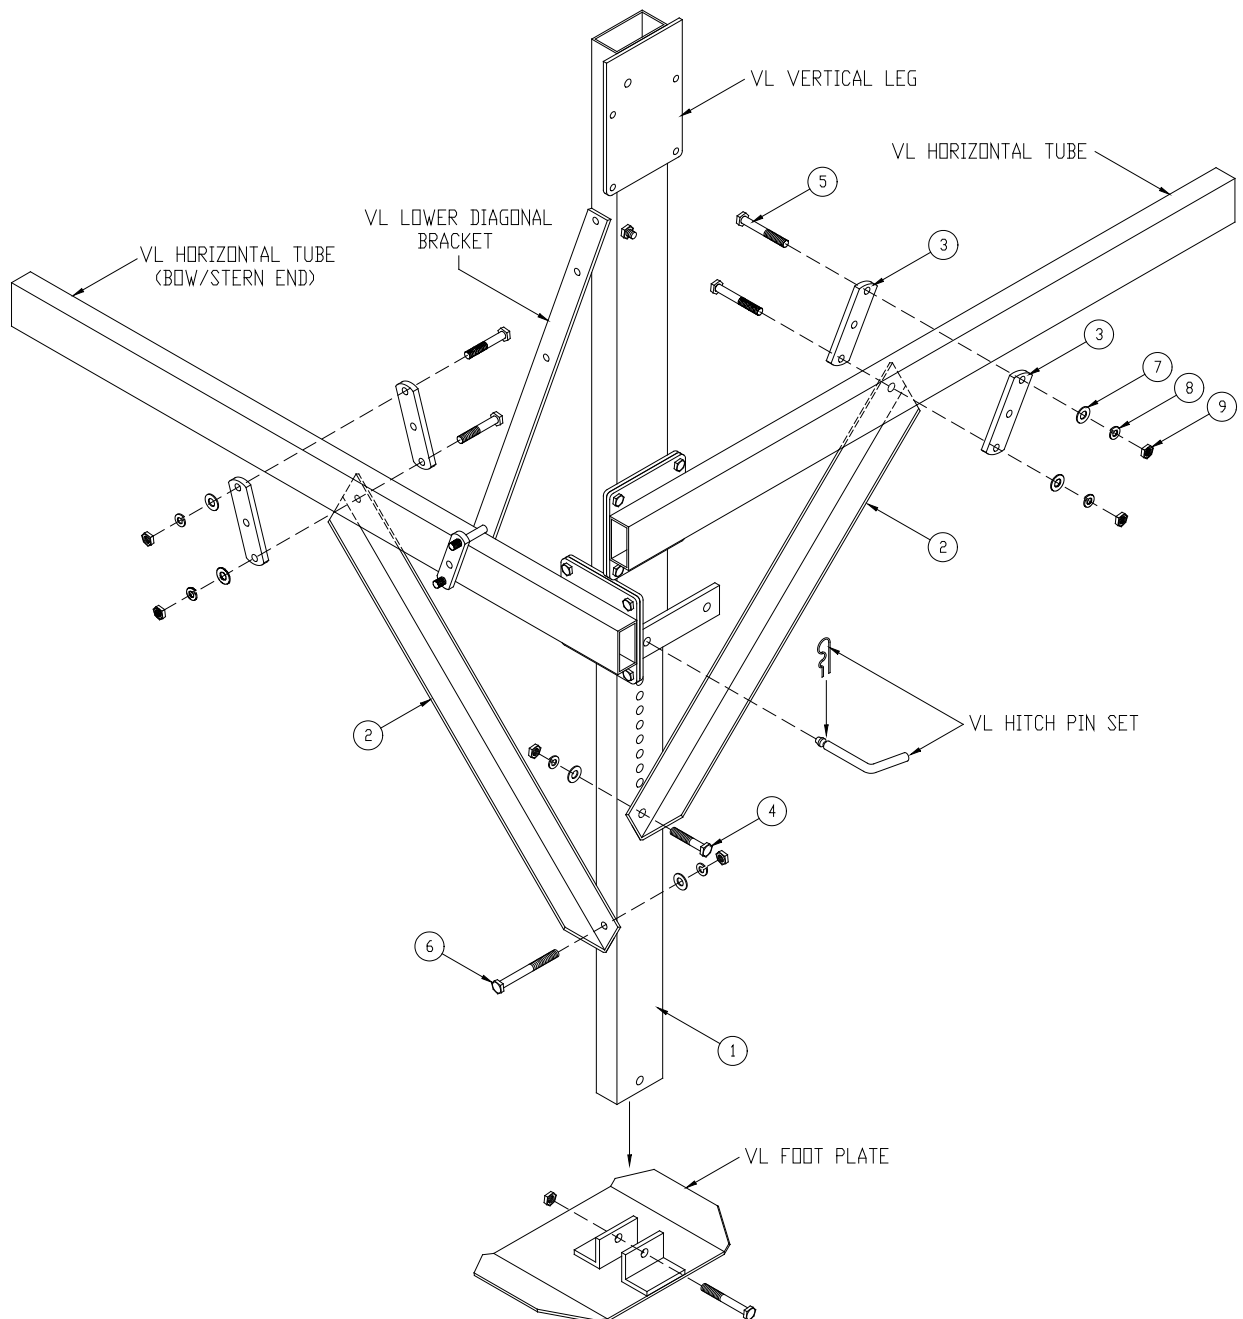

Figure 3-1.
1. **Refer to Figure 3-1.** Assemble the foot plate to the bottom end of the extension leg using a 1/2-13 x 3” HHCS and 1/2 “ locknut. (Foot plate and related hardware is supplied with your boat lift).
1. **Refer to Figure 3-1.** Fasten one end of extension leg brace to the hole located on the narrow side of the extension leg as shown.
2. Swing the opposite end of extension leg brace to the underside of horizontal tube on bow / stern end of lift with (2) three hole plates and hardware shown.
4. Swing the opposite end of extension leg brace to the horizontal tube on side of lift with (2) three hole plates and hardware shown.